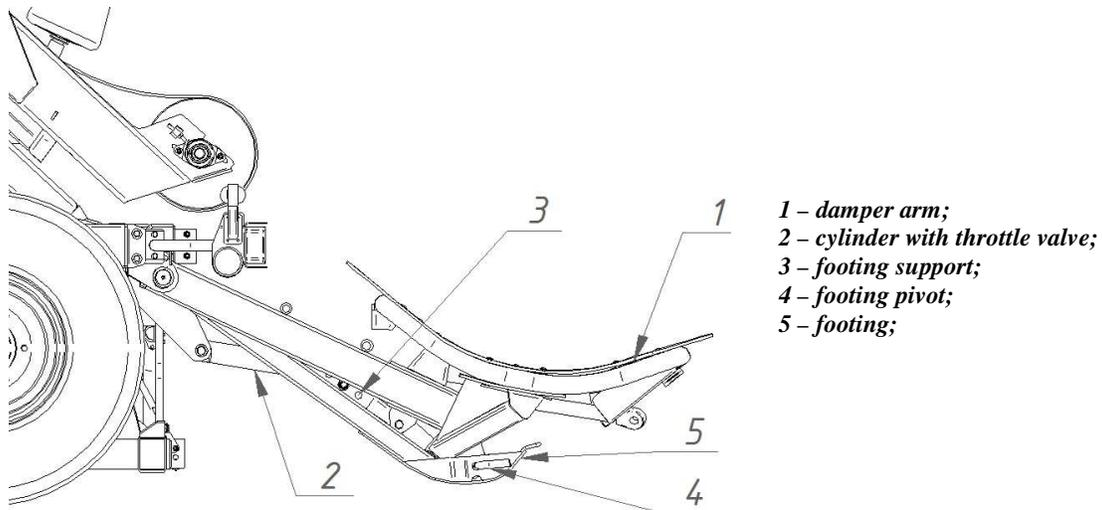

Fig. 37. Bale damper in bottom position (prepared for tipping bales on side)
Bale damper system arrangement for unloading bales to their side is presented on Fig. 37. It is done by the disconnection of the footing support (3) and fixing the footing (5) in the mounting sleeve (6) by the pivot (4). Such setting allows the bale damper to drop to the ground when the tip frame falls back on the main frame without turning the bale damper (in this position the turning is blocked) – so the bale will roll away on its side.